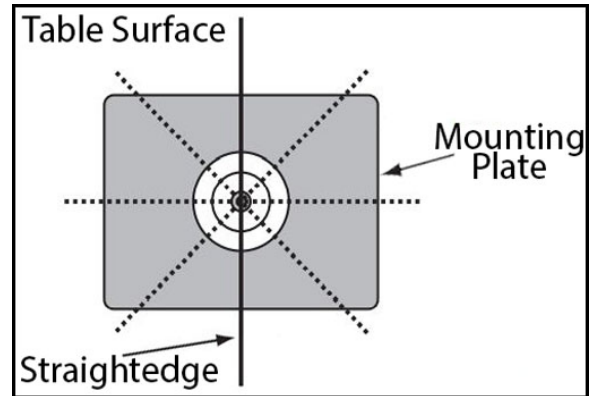

Figure 63
3. Remove (2) M4-.7 x 16 cap screws that secure the insert plate to the table.
4. Lay the straightedge across the insert plate, plate rings and table surfaces in the pattern shown in (Fig.63)